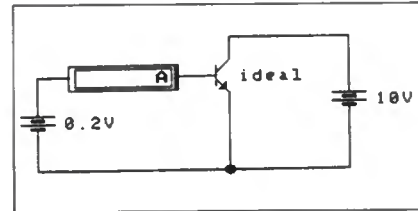

Fig. 4.20 Circuit for Assignment 4.1.1 (input characteristic).
1. Connect the circuit shown in Fig. 4.20 using a 0.6V battery to supply base voltage to the transistor.